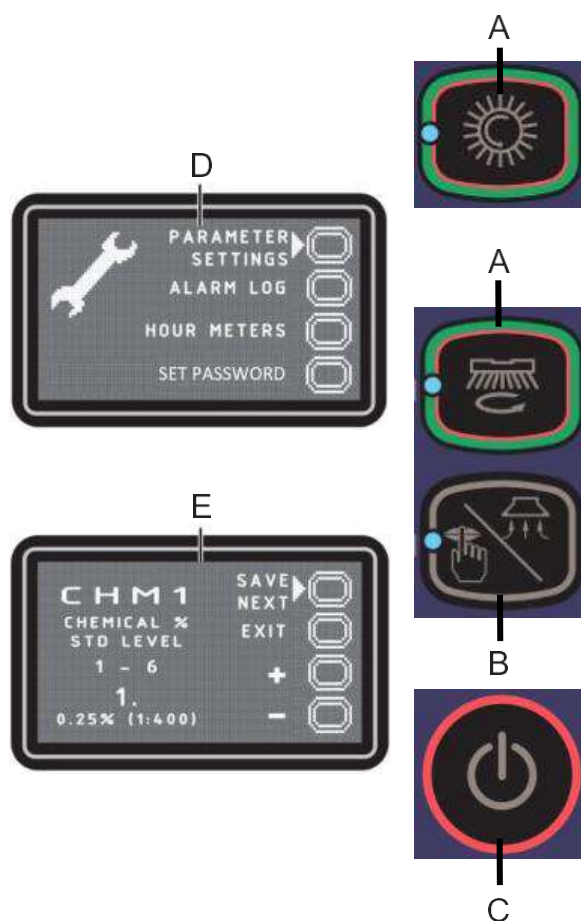

Figure 7
Main Screen (D, Fig. 7)
Machine Settings Screen (E, Fig. 7)
To return to the main screen (D, Fig. 7), press push-button (A) to move the arrow to "EXIT" and press the push-button (B).
To return to the main screen (D, Fig. 7), press push-button (B).
2. Press the push-button (B) to save and return to the main screen (D, Fig. 7).